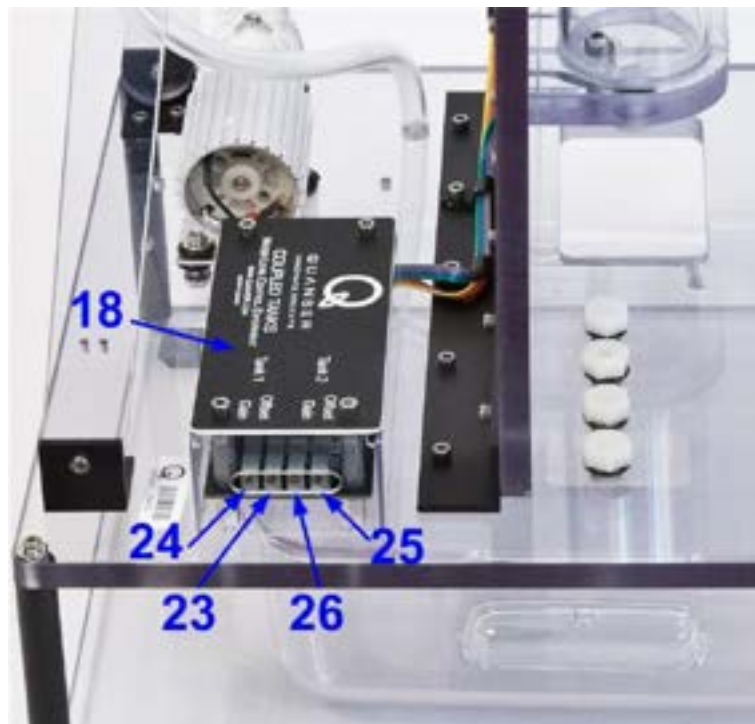

Figure 6.1: Coupled-Tank Calibration Potentiometer
To calibrate both pressure sensors signals, the bottom part of the Coupled-Tank apparatus houses a signal conditioning circuit board, depicted by component #18 in Figure 2.1, above. As a quick nomenclature, Table 6.1, below, provides a list of the different signal conditioning potentiometers to be tuned during sensors calibration. Additionally, every potentiometer is located and identified, through a unique identification (ID) number, on the circuit board close-up represented in Figure 6.1, below.
The calibration procedure detailed in the following subsections is to calibrate the circuit board's four potentiometers, which are namely "Offset 1", "Gain 1", "Offset 2", and "Gain 2", as depicted in Figure 6.1, above, as components #23, #24, #25, and #26, respectively.
4. Using a potentiometer adjustment tool (i.e. a small flat-end screwdriver), manually adjust tank 1 **gain** potentiometer screw (i.e. component #24 in Figure 6.1) to obtain anywhere **between 4.0 and 4.2 Volts**. Turning the **gain** potentiometer screw clockwise increases the voltage and vice-versa.